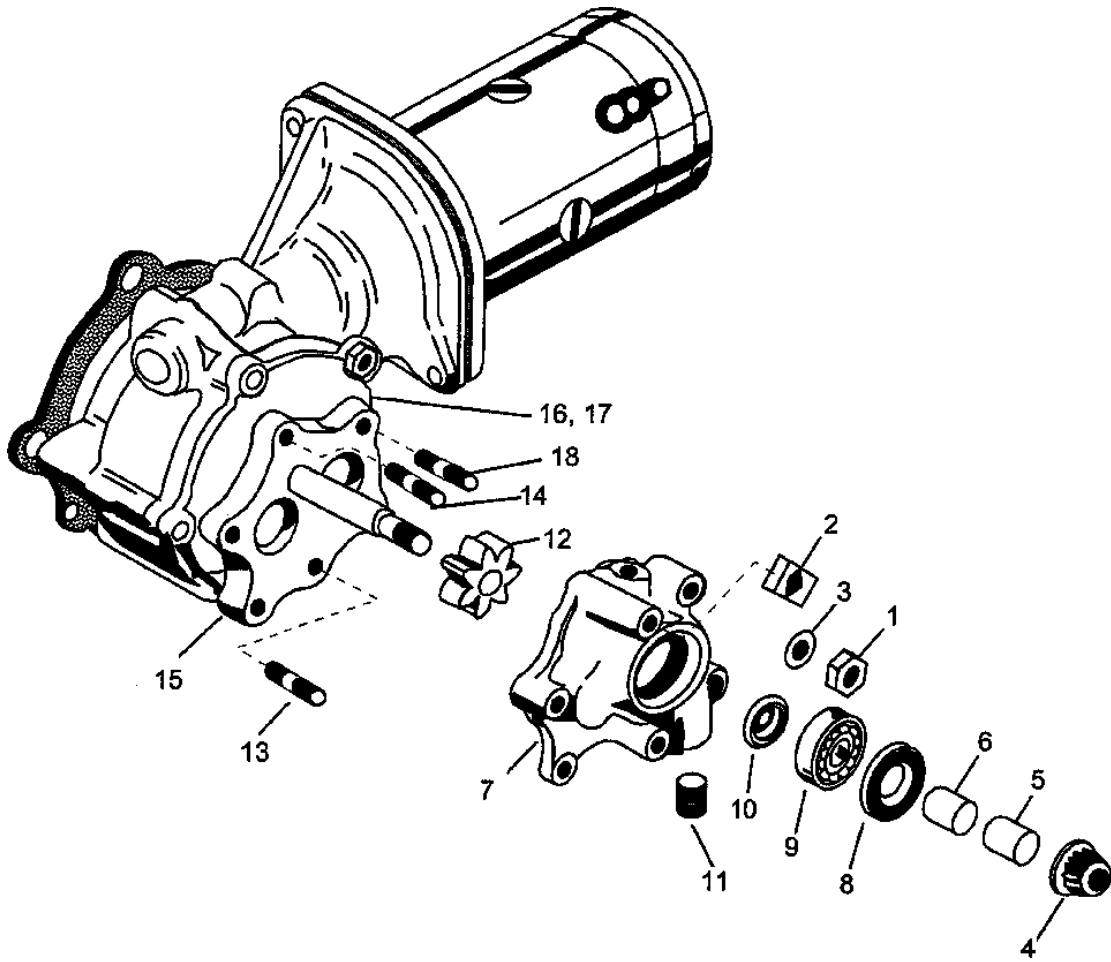

FIGURE 1.
6. Reference Figure 1. Using a 12 point deep socket loosen and remove nut (4) and spacer (5) or air-conditioning compressor drive sheeve and shims and sleeve (6). Do not misplace or discard shims as they will need to be reinstalled to assure correct alignment of the air-conditioning compressor drive sheeve, idle sheeve and compressor sheeve.
8. Position the starter adapter to allow access to body (7).
9. Remove five sets of hardware (1 & 3) and seal retaining clip (2).
10. Remove body (7) from the starter adapter.
Note: On turbocharged engines scavenge pump idler gear (not shown in Figure 1)